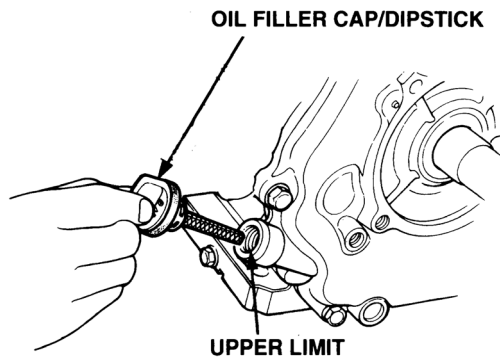

Figure 2-3: Checking Oil Level
- C. When checking oil, observe the following (refer to Figure 2-3):
- (1) Make sure the engine is in a level position.
- (2) Remove the oil filler cap/dipstick and wipe it clean.
- (3) Insert the filler cap/dipstick into the oil filler neck, but do not screw it in.
- (4) Remove the filler cap/dipstick and check the oil level.
- (5) If the level is low, fill to the top of the oil filler neck with the recommended oil.
- (6) Reinstall the oil filler cap/dipstick.